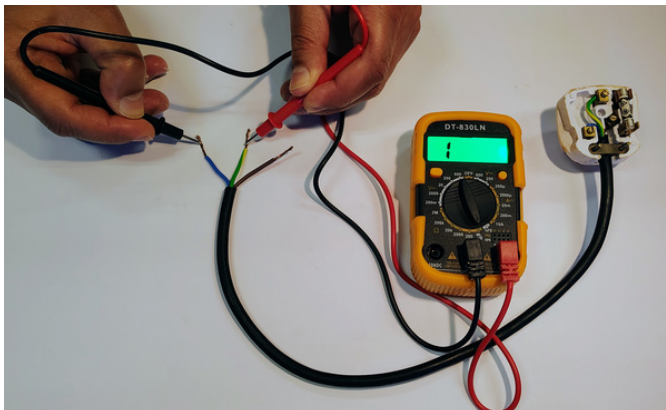

Figure 9
2. Touch the other probe to the earth wire as shown in **Figure 9**.